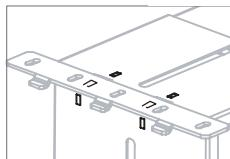

FIG. 4
- a. Each corner of the CPU450 is marked with either circles or rectangles. The mounting brackets are also marked with circles or rectangles. Please match bracket to its corresponding corner of the CPU450. FIG. 4